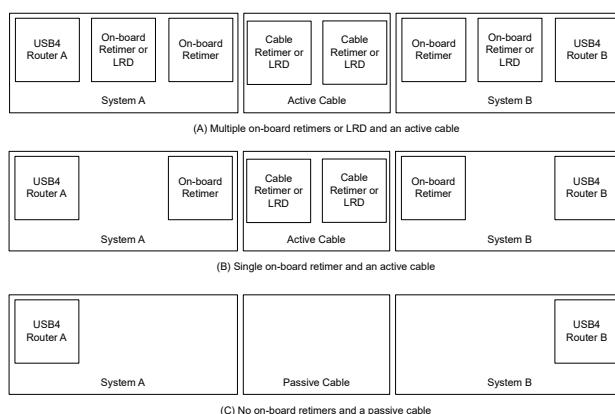

Figure 35. Possible System and cable uses cases
(1) USB4 Gen2 supports up to 2m of USB-C passive cable. USB4 Gen3 and USB4 support up to 0.8m of passive USB-C cable.
In some cases, the insertion loss between router and USB-C receptacle is too large and a signal conditioner, called a retimer (RT), is needed to overcome the deficiency. The USB4 specification allows up to two retimers between the router and the USB-C receptacle. Instead of a second retimer, the USB4 specification allows the use of a linear redriver (LRD) between the router and retimer near USB-C receptacle. A few examples of different use cases are shown in **Figure 35**.